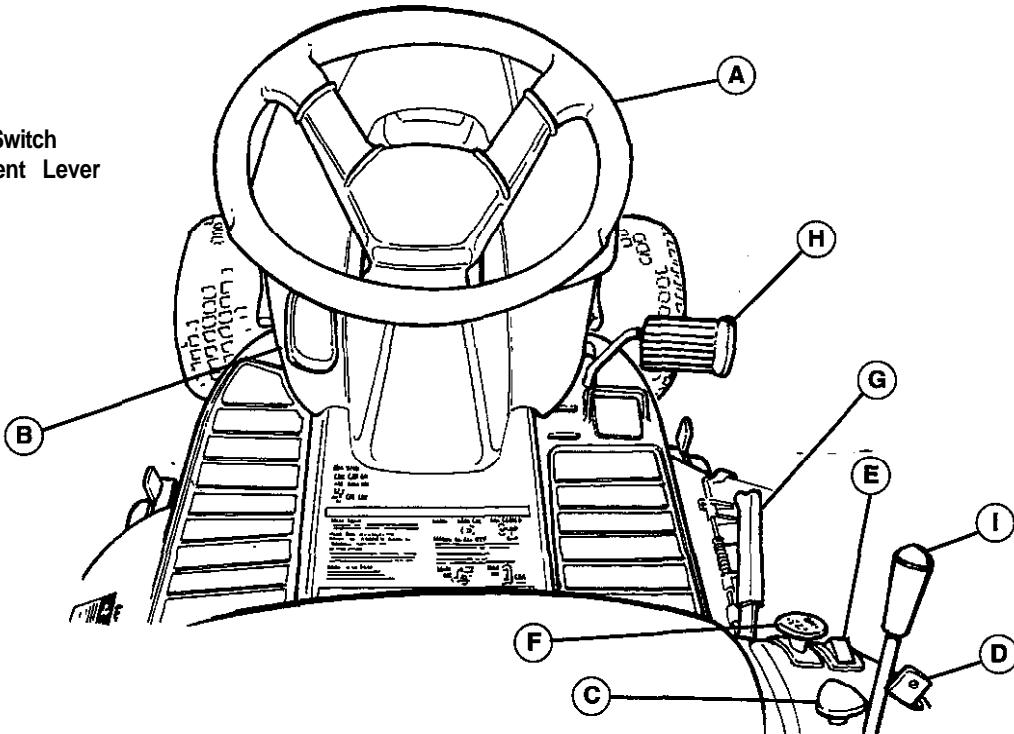
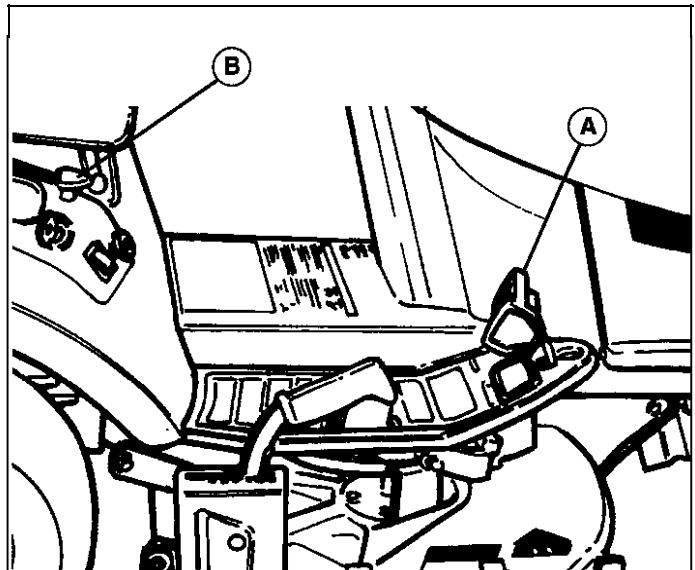

Figure 3. Tractor & Mower Controls - Gear Model
Figure 8. Clutch/Brake Pedal Operation
On gear model, depressing the pedal (A, figure 8) halfway disengages the transmission drive. Depressing pedal further applies the tractor brake.
Parking brake can be applied by fully depressing the brake pedal (A, figures 8), then pulling up on the parking brake knob (B, figure 8).
- On gear models**, put the gear selector (I, figure 3) in neutral.
On gear model, ground speed is selected by fully depressing the clutch/brake pedal, then moving the gear selector (I, figure 3) to the appropriate position. Most mowing is done in 3rd or 4th gear with engine speed between 3/4 and full speed. If the terrain is rough, hilly or sloping, use first or second gear. If the grass is wet or over three inches (76mm) high, use full engine speed (with low gear) so the mower will have enough power to cut the grass. Shift gears only with Tractor stopped and clutch/brake pedal fully depressed.
4. On hydro model, release the parking brake by depressing the brake pedal (A, figure 8), then press down on either pedal (I or J, figure 2) for the desired direction and speed of travel.
On gear model, fully depress clutch/brake pedal (A, figure 8) to release the parking brake and disengage the clutch. Use the gear selector (I, figure 3) to select the gear best suited for conditions, then slowly release clutch/brake pedal to engage clutch and start tractor in motion.
On gear model, press the clutch/brake pedal (A, figure 8) down only far enough to disengage the clutch to make a gradual stop. For a more rapid stop, press pedal down fully to apply the brake.
2. Engage the parking brake by pulling up on the knob (B, figure 8) with the brake pedal fully depressed.